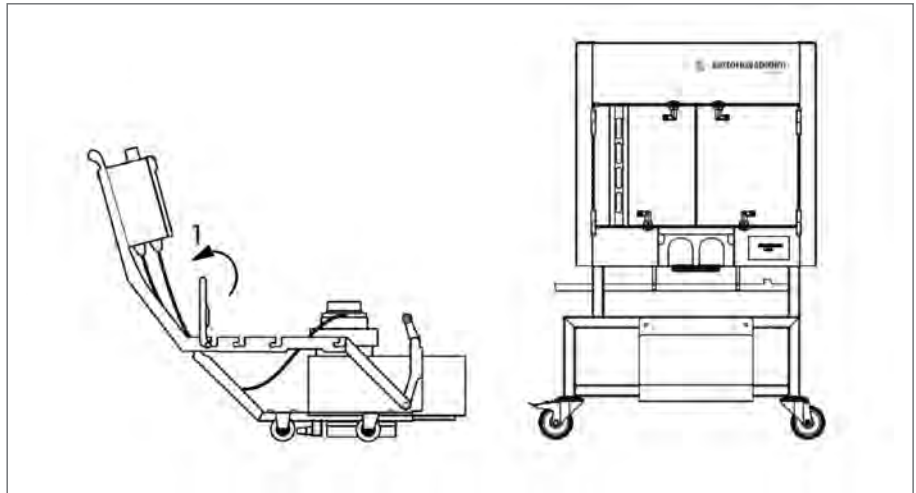

Figure 61
3. Shift the latch toward the control box slightly (see Fig. 61 | 1)